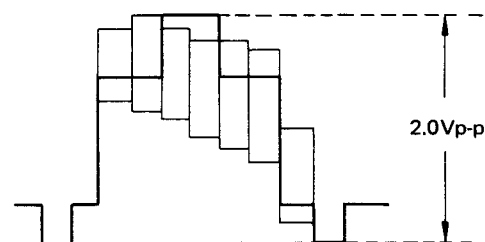

Figure 99.
2. Apply colour bar signal to the unit. Observe the output of TP-403 on oscilloscope (internal trigger), and adjust R209 (EE level control) so that the waveform will be shown. (Fig. 99)